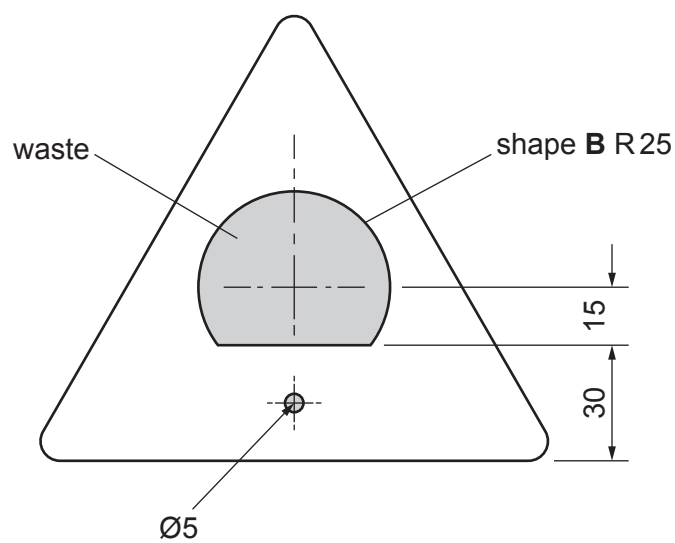

Fig. 13.3
- (c) Fig. 13.3 shows the front of the bird feeder with the Ø5 hole and shape B marked out.